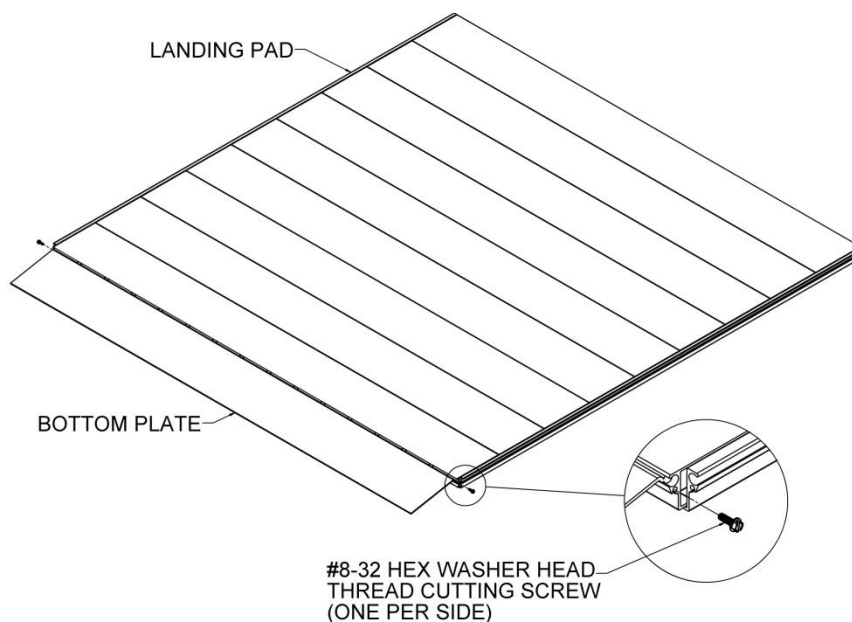

FIG. 6.19
- 6.6.3. After installing the bottom plate, install #8-32 hex washer head thread cutting screws into the screw slots on both sides (FIG. 6.19).